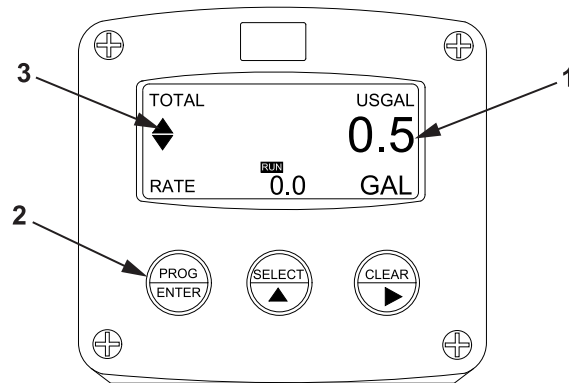

Figure 46. SETUP Display.
1. Press and hold the PROG/ENTER key (Figure 46, Item 2) for 7–10 to enter the SETUP level. The display screen (Figure 46, Item 1) will show two arrows (Figure 46, Item 3).